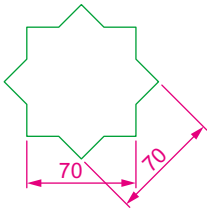

Fig. 14.10 Example – 3D Array – the star pline
1. Construct the star-shaped pline on a layer colour green (Fig. 14.10) and extrude it to a height of **20**.